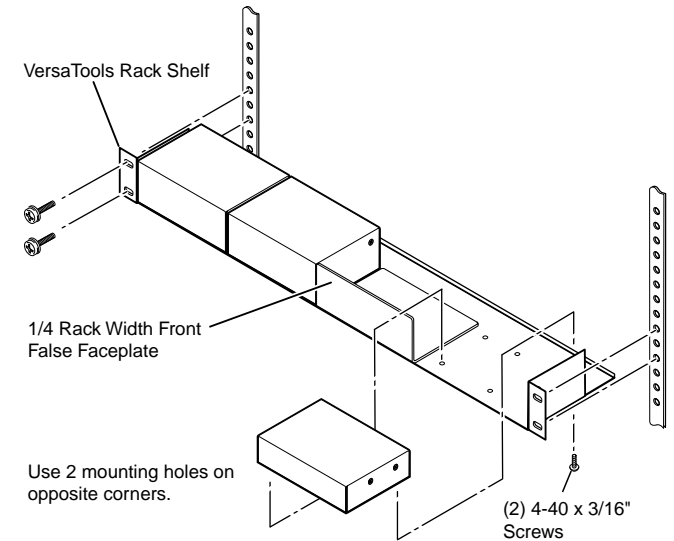

Figure 2-1 — Mounting the transmitter or receiver unit on a VersaTools rack shelf
The following Underwriters Laboratories (UL) guidelines pertain to the installation of the transmitter or receiver into or onto a rack (figure 2-1).
- RSF 123 3.5" deep 1U VersaTools® rack shelf kit (part #60-190-20) (figure 2-1)